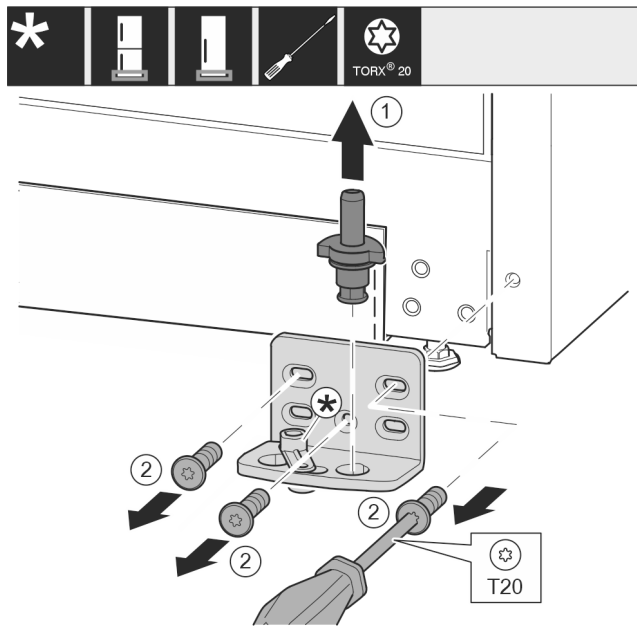

Fig. 17 \*
- ▶ Pull the bearing bolt Fig. 17 (1) out upwards completely.\*
- ▶ Use screwdriver to unscrew the screws Fig. 17 (2) and remove the swap bearing block.\*